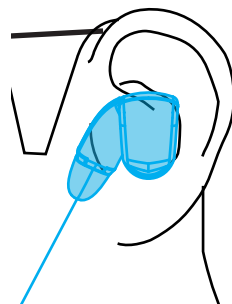

fig.1 - Normal
There will be a small (R) and (L) on the housing of the earphones denoting the right and left. Place the earphone in your ear canal using a gentle twisting motion, pushing it into your ear canal until you get a secure fit. The cable should exit straight down (fig. 1). You may have to try different size ear tips to achieve the correct fit and level of comfort.